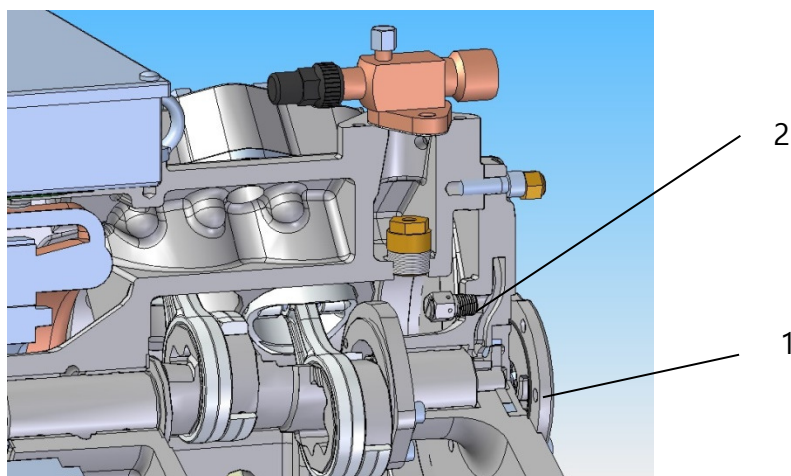

Fig. 11 Compressor model RP1-L/H4xx-F: gear pump and safety valve
The gear pump has also a safety valve (ref. 2 in Fig. 11), which allows the oil by-pass to the carter when the delivery pressure exceeds the set value (open at 4,1 bar; rearmament 2,8 bar).